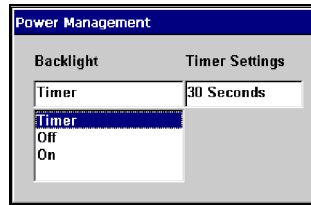

Figure 5-82 Sample Power management dialog box
2. Select settings from the drop-down menus (Figure 5-82).